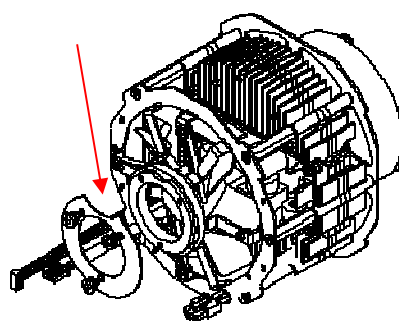

Fig.2
6. Place HPLED II C5 on working bench and start loosening the 3 M4 screws that hold the metal ring (marked by red arrow in figure 2).